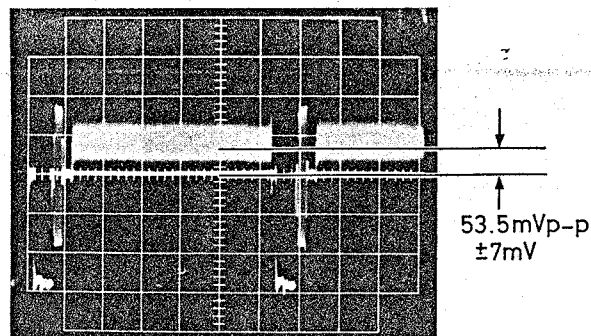

Fig. 4-19 Dark Offset Adjustment
6. Adjust Y SETUP control (RT1117) for 53.5mVp-p $\pm$ 7mV from blanking level to the center of the waveform. (See Fig. 4-19)